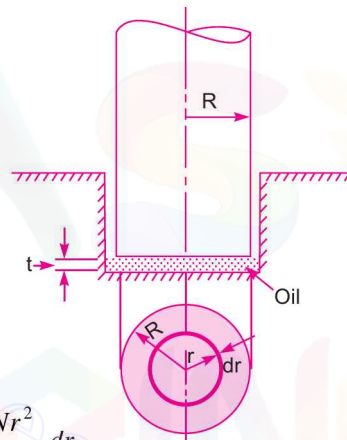

Fig. 9.11 Foot-step bearing.
**9.5.2 Viscous Resistance of Foot-Step Bearing.** Fig. 9.11 shows the foot-step bearing, in which a vertical shaft is rotating. An oil film between the bottom surface of the shaft and bearing is provided, to reduce the wear and tear. The viscous resistance is offered by the oil to the shaft. In this case the radius of the surface of the shaft in contact with oil is not constant as in the case of the journal bearing. Hence, viscous resistance in foot-step bearing is calculated by considering an elementary circular ring of radius  $r$  and thickness  $dr$  as shown in Fig. 9.11.